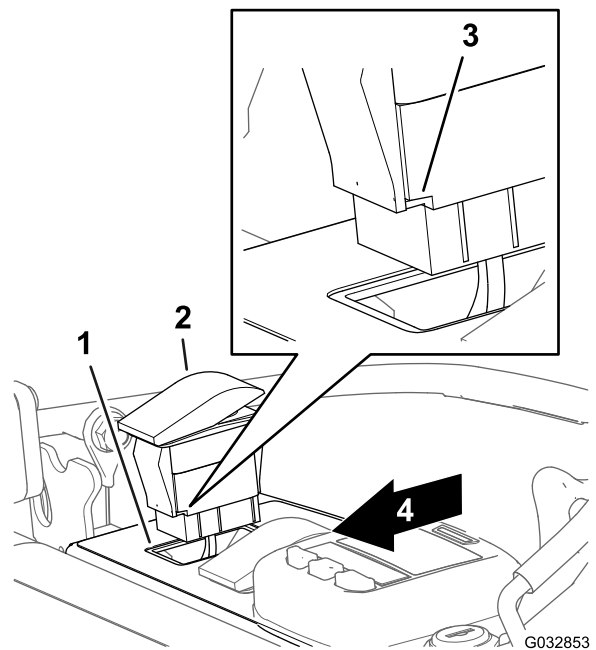

Figure 14
4. Align the switch so that the notch in the body of the switch is toward the back of the control panel (Figure 14).
5. Insert the switch into the opening in the control panel until the switch snaps securely into the panel (Figure 14).